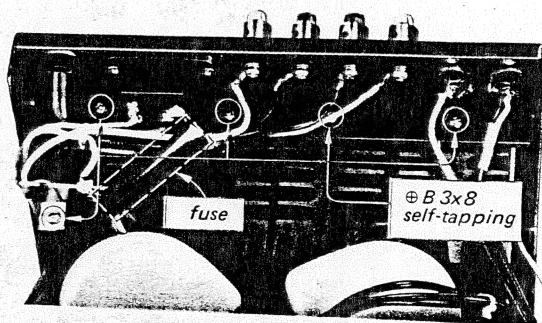

Fig. 2-7 Heat sink removal
2. Remove the four self-tapping screws ($\oplus B 3 \times 8$) securing top heat sink bracket and one self-tapping screw ($\oplus B 3 \times 8$) securing a terminal strip to the heat sink as shown in Fig. 2-7.
2. Remove the four self-tapping screws (⊕ B 3x8) securing heat sink bracket and one self-tapping screw (⊕ B 3x8) securing a terminal strip to the heat sink as shown in Fig. 2-7.